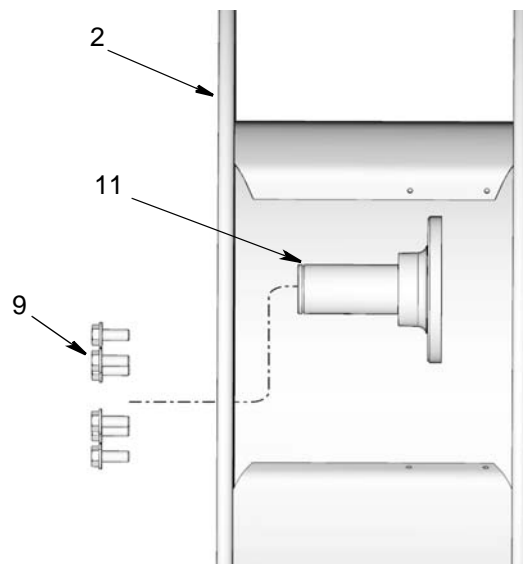

FIG. 31
3. Install shaft (11) inside spool (2) using bolts (9) (FIG. 31). Wrench tighten bolts. Then torque to 25 to 35 ft. lbs (33.9 to 47.45 N.m).